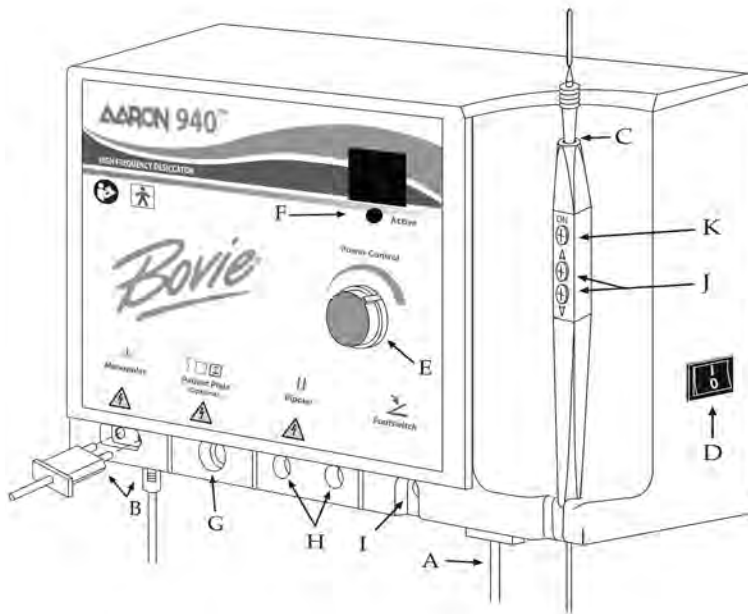

Figure 2
2. Plug the female end of the power cord into the base of the unit (see figure 2, letter A).
4. Plug the handpiece into the monopolar output on the lower left of the front on the unit (see figure 2, letter B). The plug is designed to fit in only one direction. Plug the smaller round connector from the handpiece into the receptacle on the bottom of the unit (see figure 2, letter B). The three button handpiece is designed to give the doctor complete fingertip control of the power output settings.
5. Slide the standard electrode into the handpiece until it is firmly seated (see figure 2, letter C). The handpiece will accept most standard  $\frac{3}{32}$ " electrodes.
7. Turn the unit power on utilizing the switch on the right side panel of the unit (see figure 2, letter D).
8. Set the power output either by using the dial on the front of the unit (see figure 2, letter E) or on Aaron 940™ unit only by the up and down buttons on the handpiece (see figure 2, letter J). When power level adjustment is being made by the handpiece an audible tone will sound to indicate that the power level has been changed. Depressing and holding the up or down buttons will cause the power settings to change more rapidly for quick
9. To activate the unit, remove the handpiece from the holder. Place the handpiece in the desired position and depress the activation button (see figure 2, letter K). When the unit is activated, an audible tone is sounded and the blue active light will illuminate (see figure 2, letter F).
10. To use the optional grounding plate with cord (A802EU), insert the plug of the cord into the grounding plate output (see figure 2, letter G) and connect the other end into the grounding plate. The plate should be placed underneath the patient at a point where the entire plate is covered by bare skin.
11. To use the optional bipolar cord (A827BP), insert the plugs into the bipolar outputs (see figure 2, letter H). The cord is then plugged into the forceps. A sliding gate behind the monopolar and bipolar outputs prevents the user from using both simultaneously.
12. The optional footswitch (A803) is plugged into the footswitch output and placed on the floor (see figure 2, letter I).